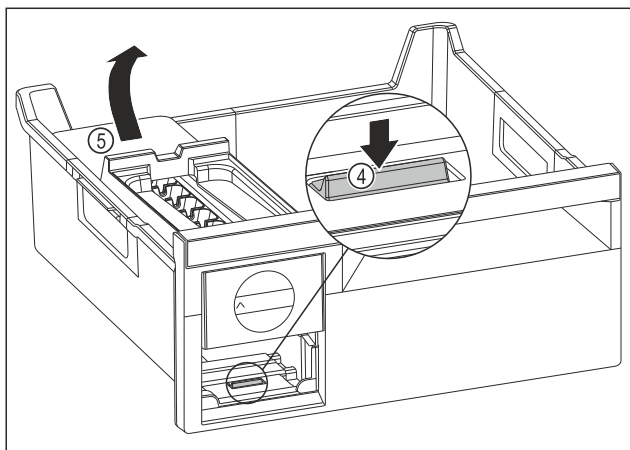

Fig. 112
- Removing the EasyTwist-Ice body: Use your finger to push the tab Fig. 112 (4) down and use your other hand to lift the EasyTwist-Ice body Fig. 112 (5) from behind at the same time.